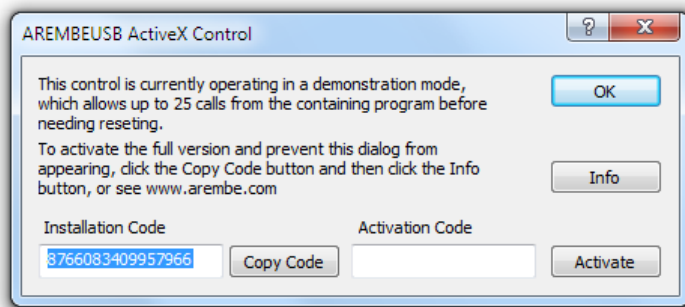

Figure 2-5, AREMBEUSB Activation Mode Dialog
If, however, you have not yet bought the activation code for the AREMBEUSB ActiveX control then it will operate in a demonstration mode. In this mode it is fully functional except that there is a limit of 25 data transfers between the board and the computer before the control needs reinitializing. This allows users to check that it (and hence the AREMBEUSB Remote Control Server system) will work in the intended application before purchasing an activation code. If the demonstration mode is active, the dialog shown in figure 2-5 will be displayed.
- 1) When the dialog shown in figure 2.5 is displayed, write down (or click the **Copy Code** button to copy the code to the Windows clipboard, and paste into another document) the **Installation Code**
The dialog shown in figure 2.5 will be displayed again.